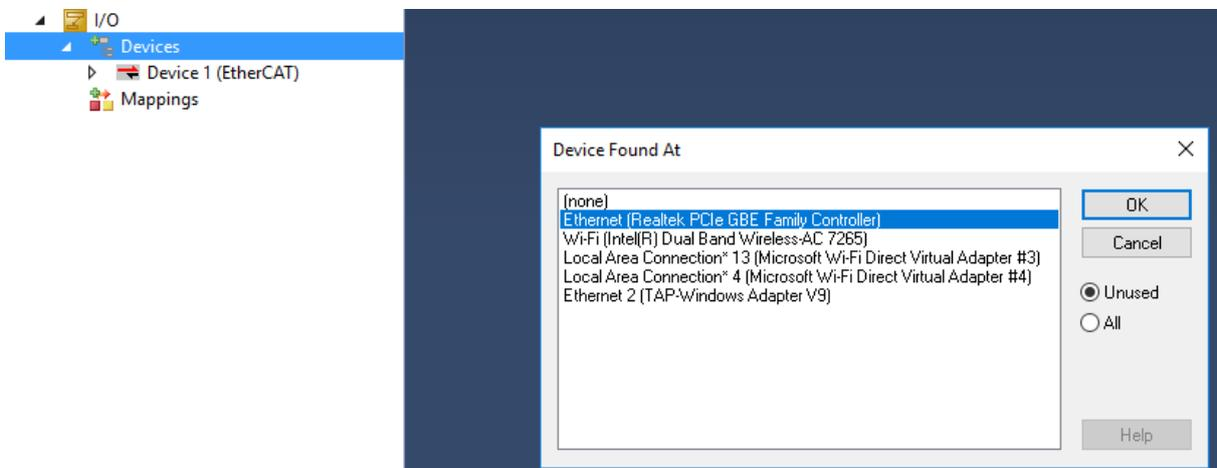

Figure 2.6. Selection of an Ethernet adapter.
- A window “Device Found At” appears as in Figure 2.6, select the Ethernet adapter that is already installed.